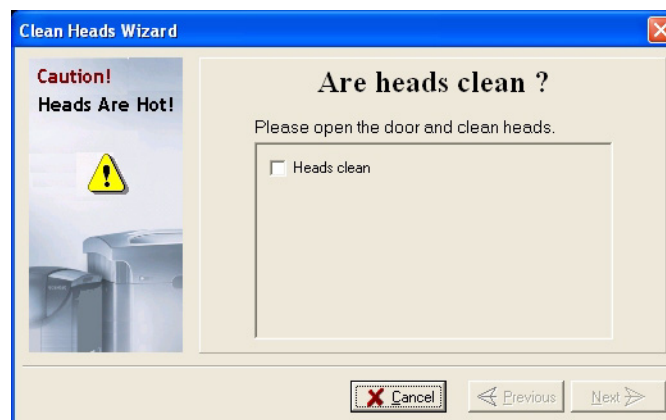

Figure 7-19:Head cleaning wizard—steps 5–10
10. When you have finished cleaning, select the confirmation check box in the wizard screen (see figure 7-19) and click **Next**.